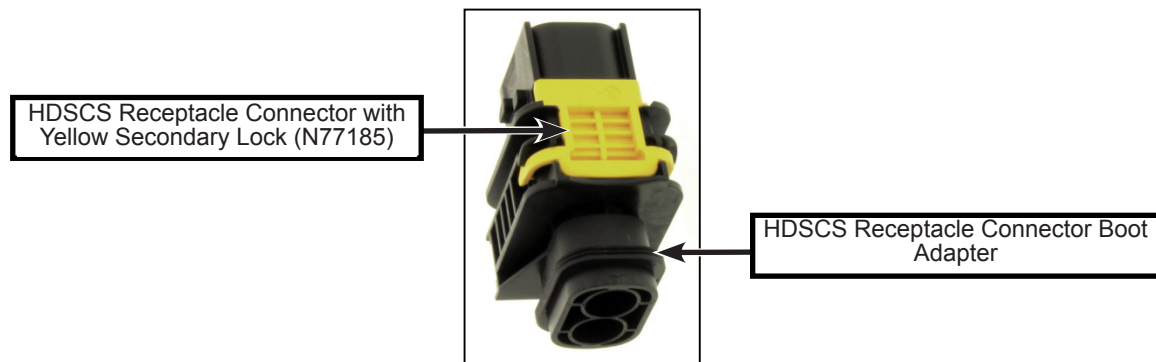

Figure 11 - TE Connectivity HDSCS Receptacle Connector
- 1.23. Insert the RED wire into position 1 and the BLACK wire into position 2 of the HDSCS receptacle connector PN N77185. Make sure that the yellow secondary lock of the receptacle connector is completely pressed (to move it from the unlocked to the locked position) after inserting both terminals (see Figure 11). Refer to Annex 2 for detailed instructions about terminals insertion and secondary lock.